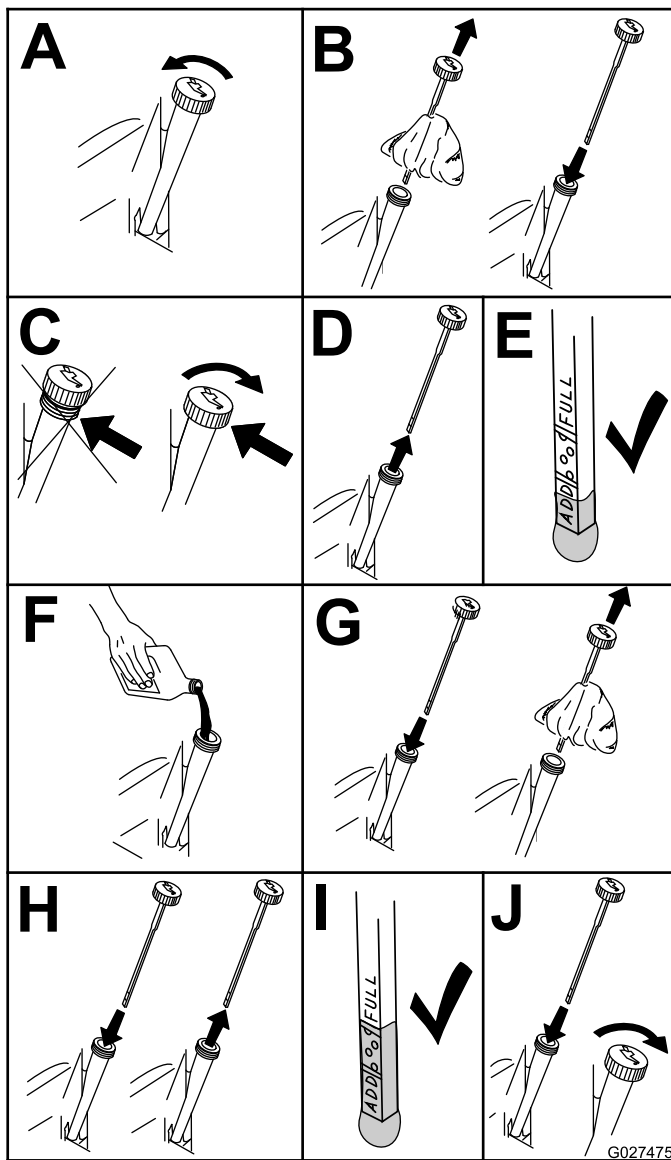

Figure 32
4. Check the engine-oil level (Figure 32).